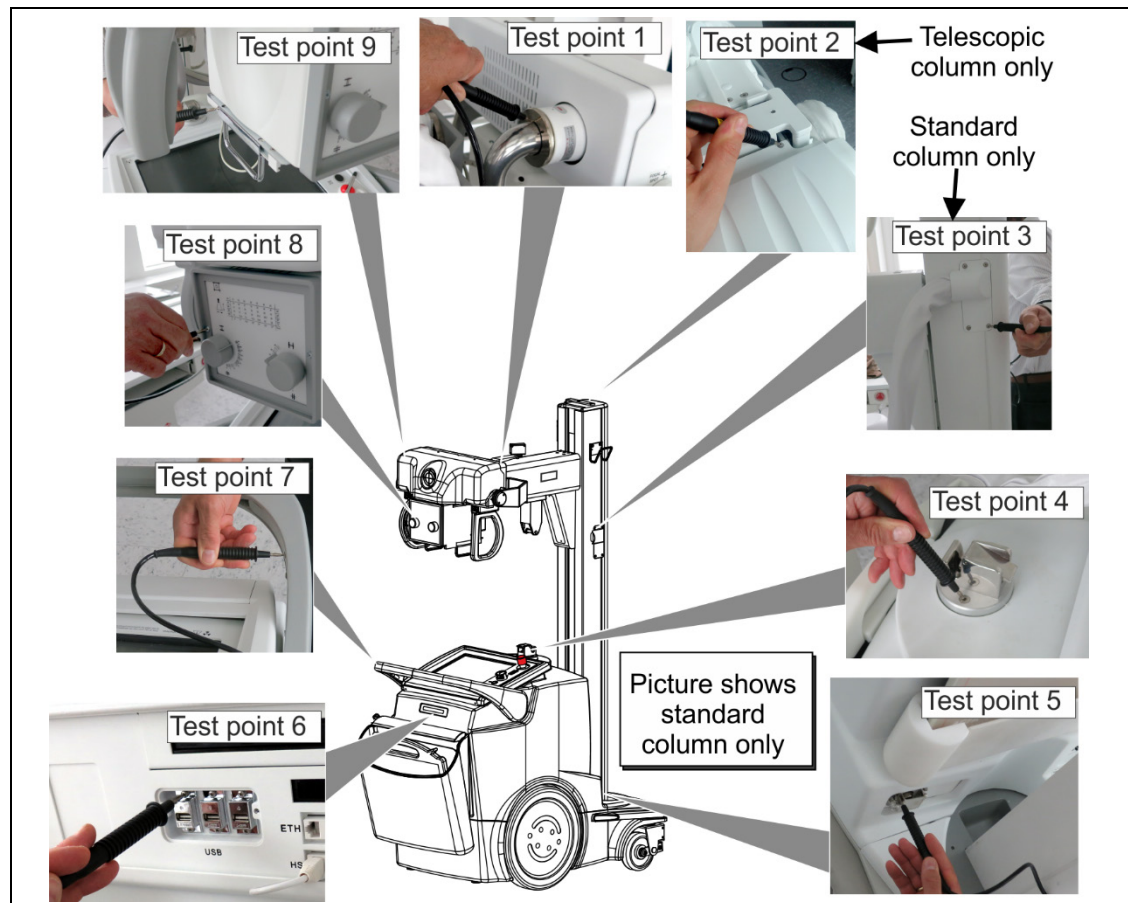

Figure 4: PE measurements
- (6) Using the probe, measure the PE resistance at several locations. See Figure 4.
- (7) Enter the values in the table next page.